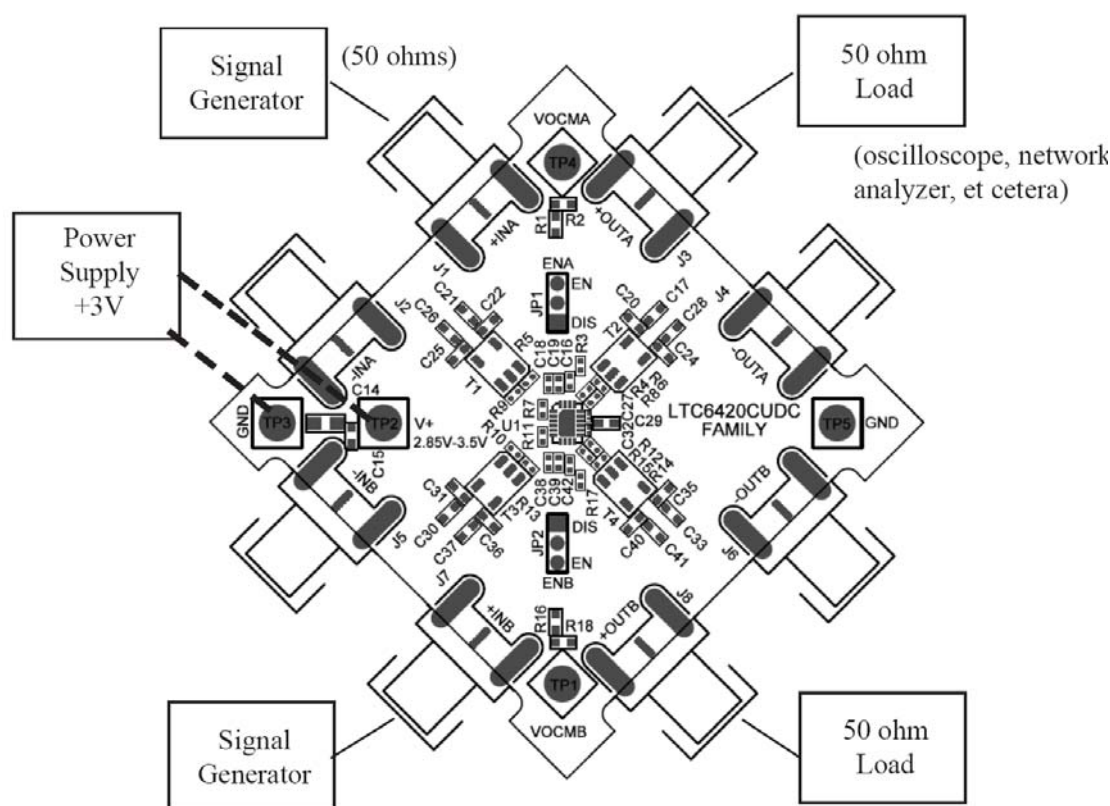

Figure 1: Proper Measurement Equipment Setup
Table 1 shows the function of each SMA connector on the board. Refer to Figure 1 for the connection diagram and follow the procedure below:
1. Connect the power supply as shown in Figure 1. The power labels of V+ and GND directly correspond to the V+, and V- pins of the LTC6420/1. Jumpers JP1 and JP2 shut down the amplifiers within the LTC6420/1.